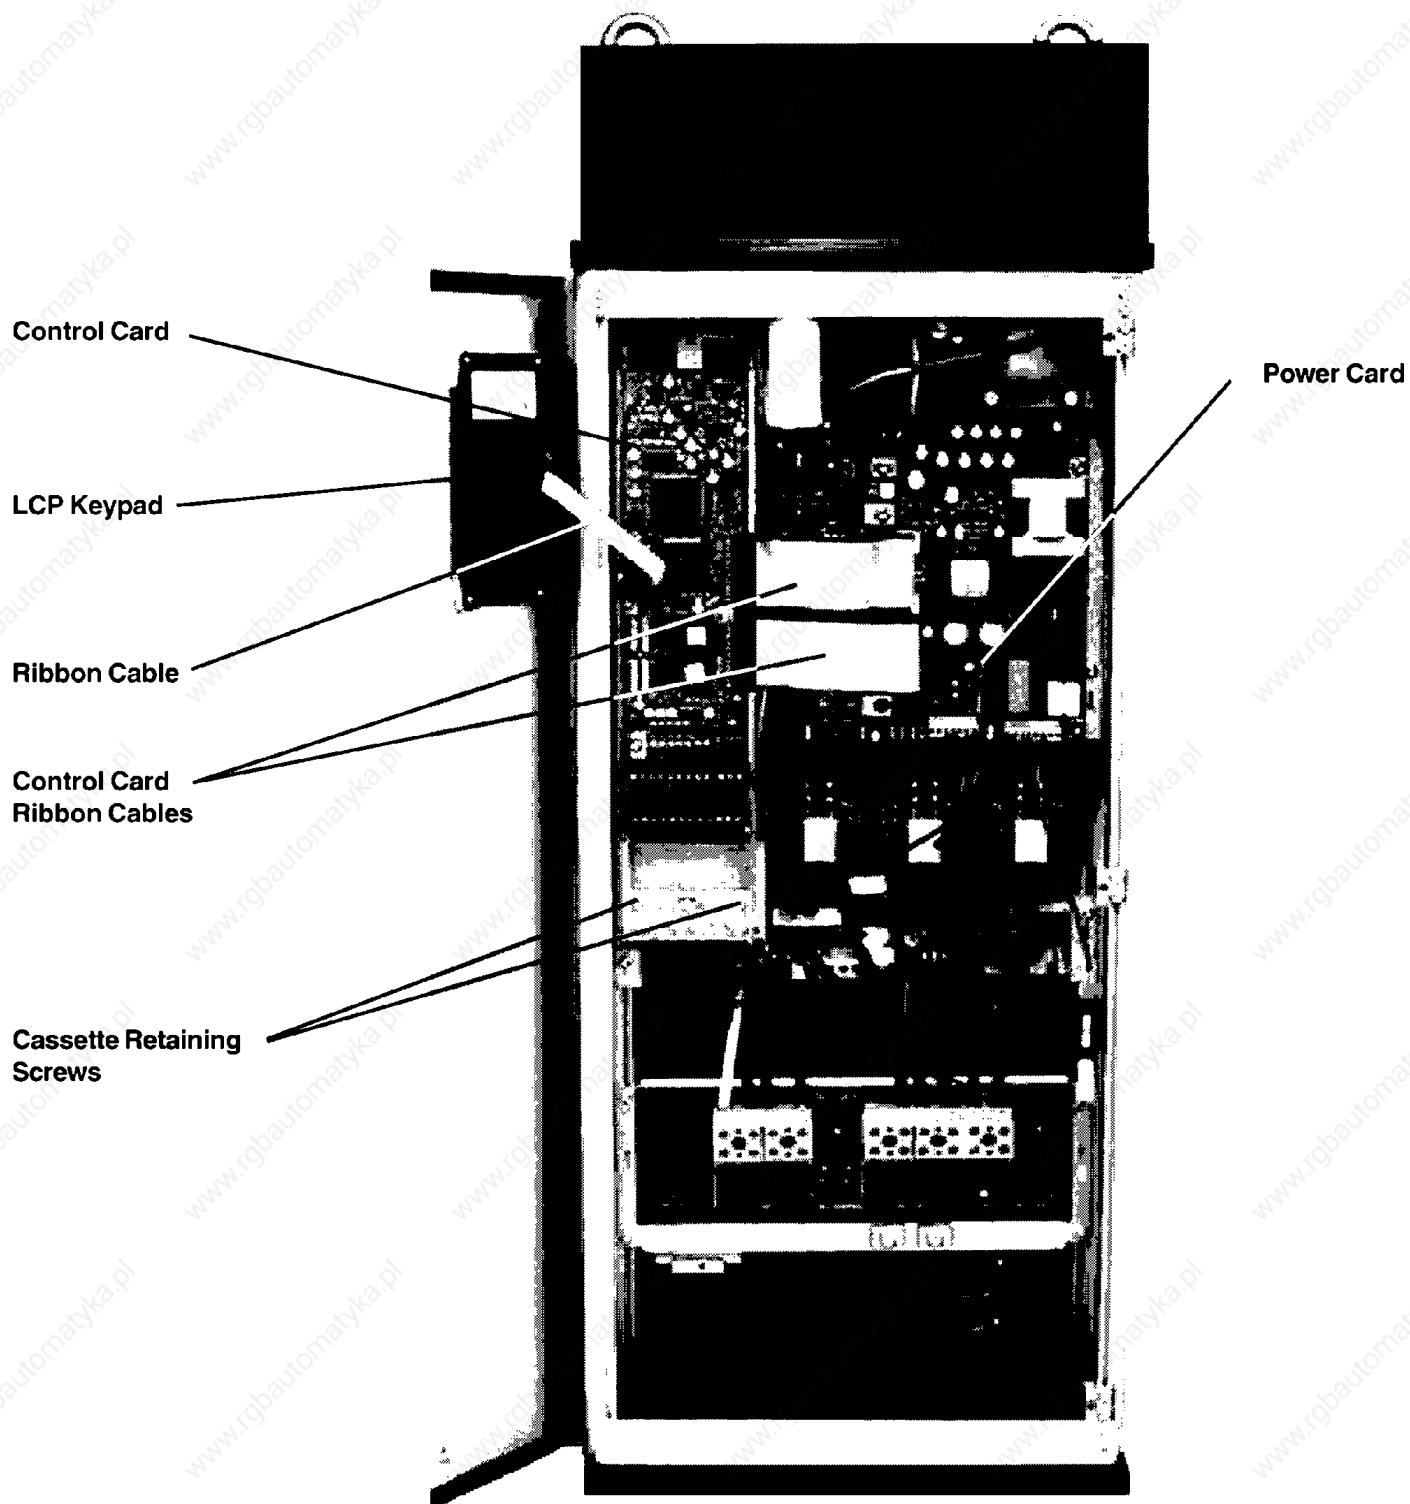
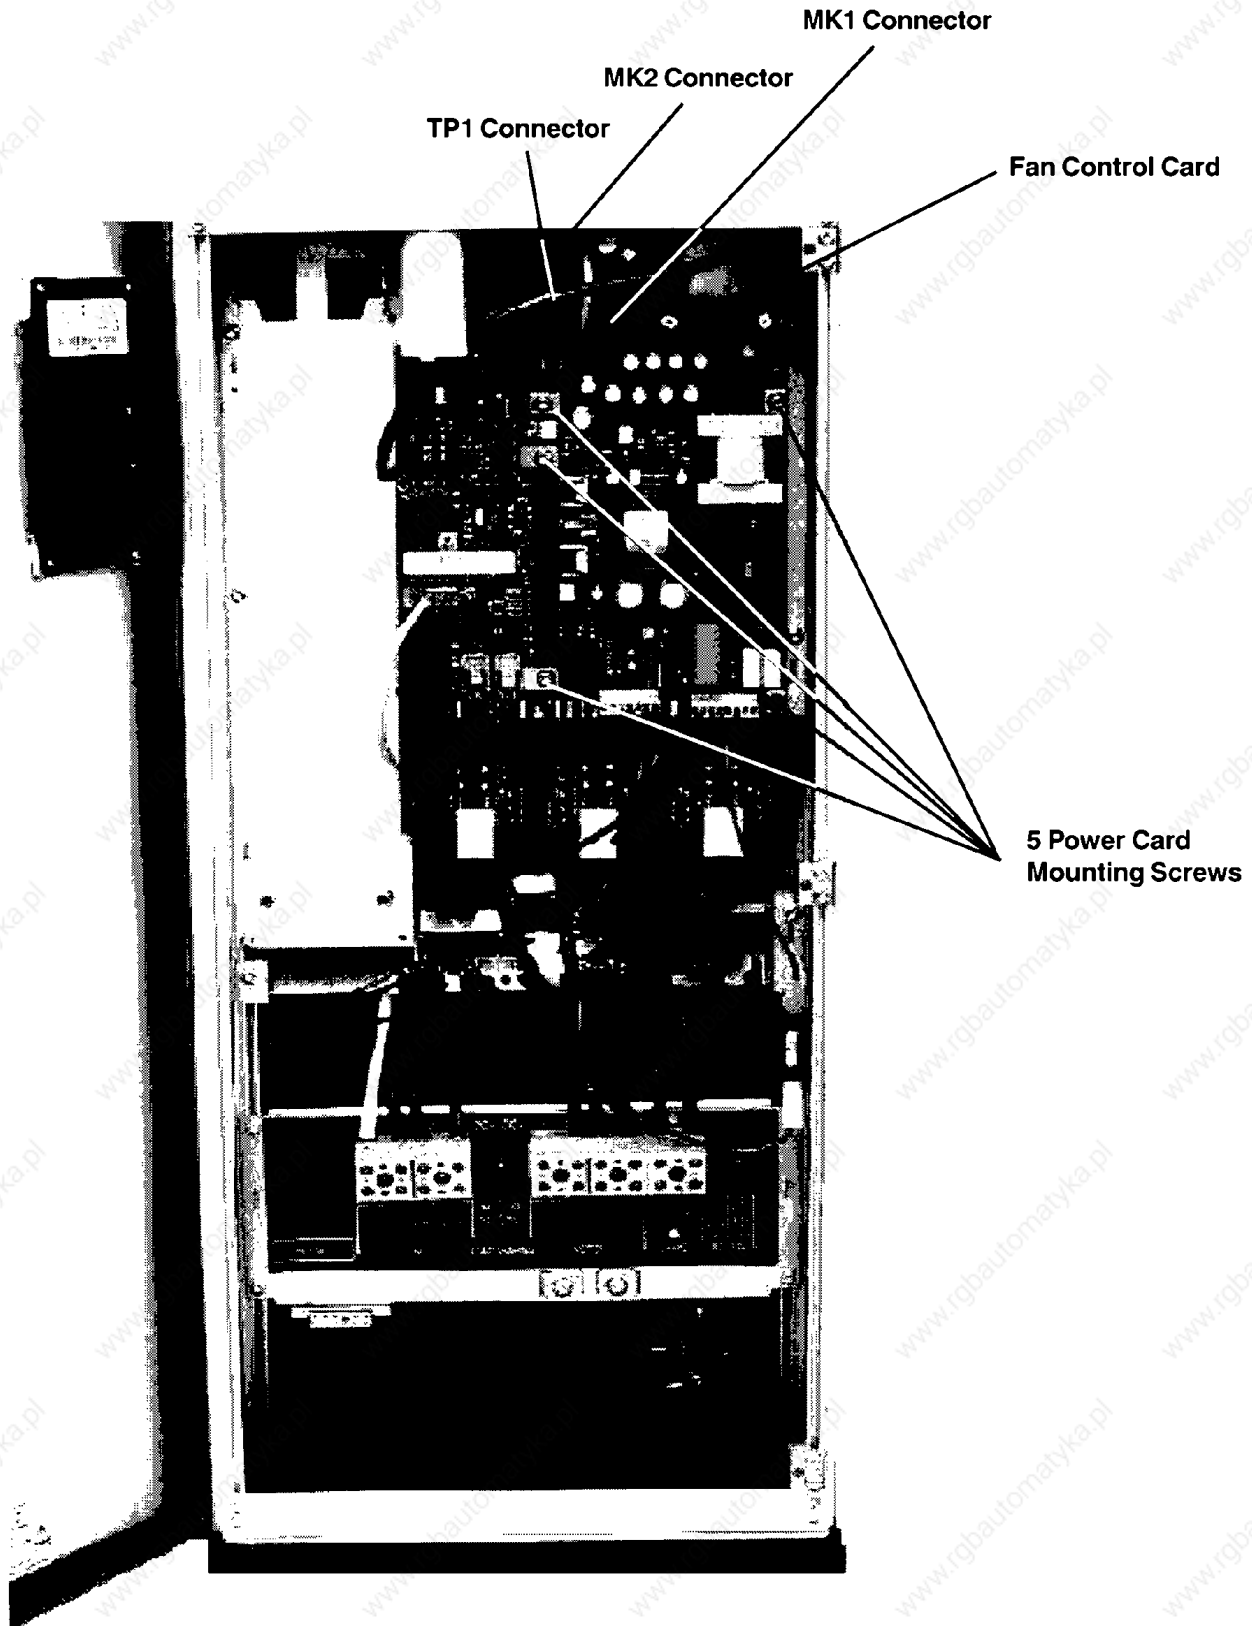
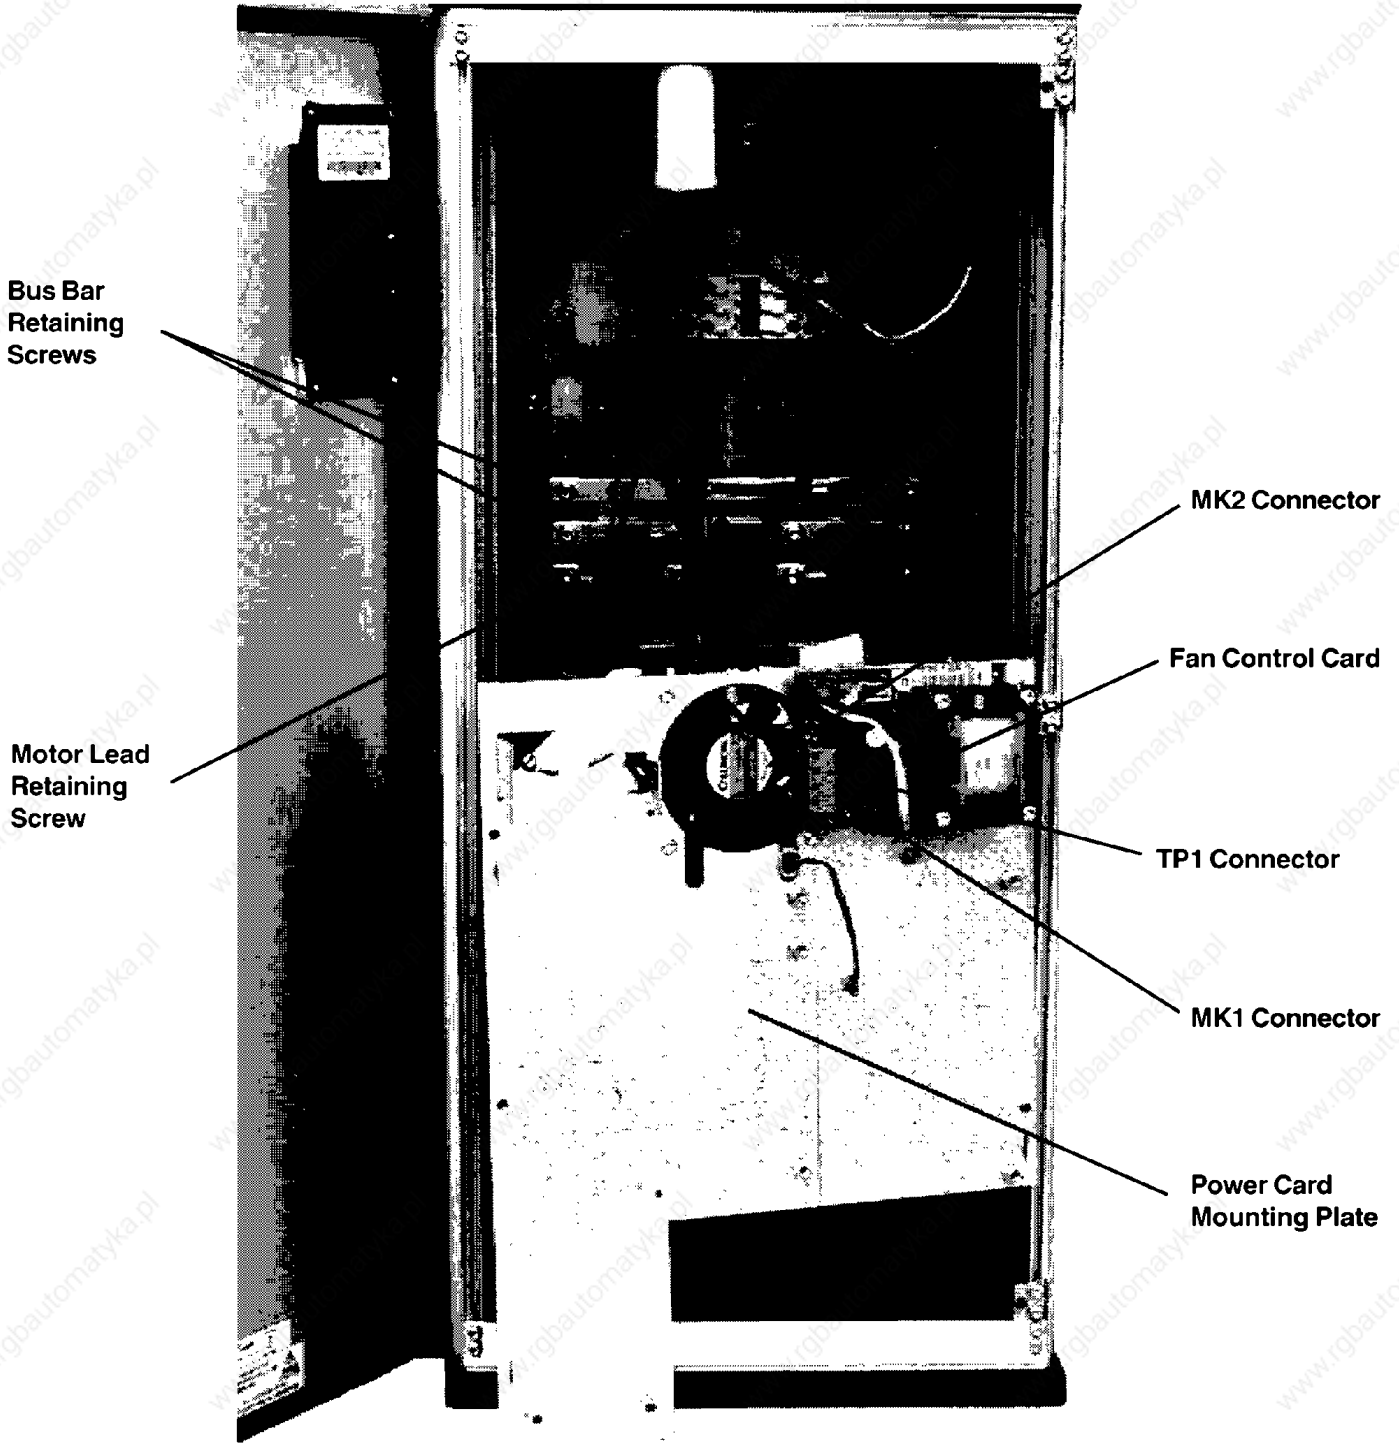

Figure 13: Ribbon Cable Removal
Figure 14: Power Card Removal
Figure 16: IGBT Bus Bar Removal
3. Disconnect ribbon cable between back of keypad LCP and control card from control card connector (see Figure 13).
8. Note carefully correct location of each power card connector to ensure proper reinstallation of power card. Disconnect eight (8) power card cables from connectors MK1, MK2, MK3, MK7, MK8, MK10, MK11, and MK12 on power card. Units with brake will have additional MK4 connector to remove.
9. Remove power card and insulator by removing five (5) mounting screws from power card (see Figures 14 and 15).
2. Unplug cables from MK1 and MK2 on fan control card. See Figures 14 (also shown on Figure 16).